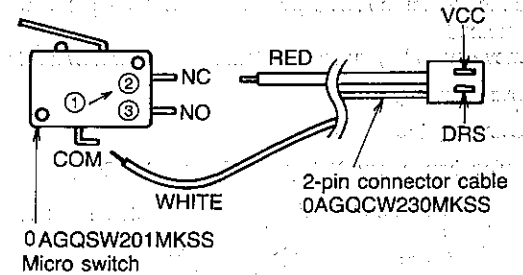

Fig. 8-6
- Solder the 2-pin connector cable (0AGQCW230MKSS) to the micro switch as shown in Fig. 8-6.